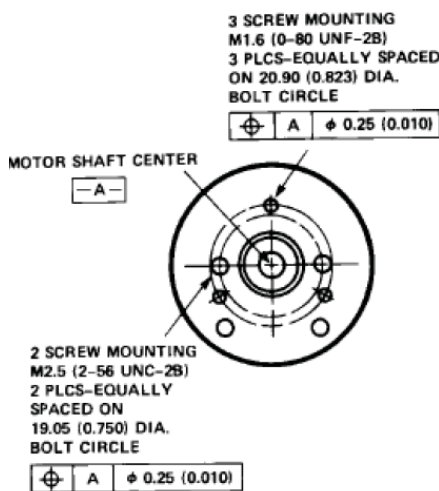
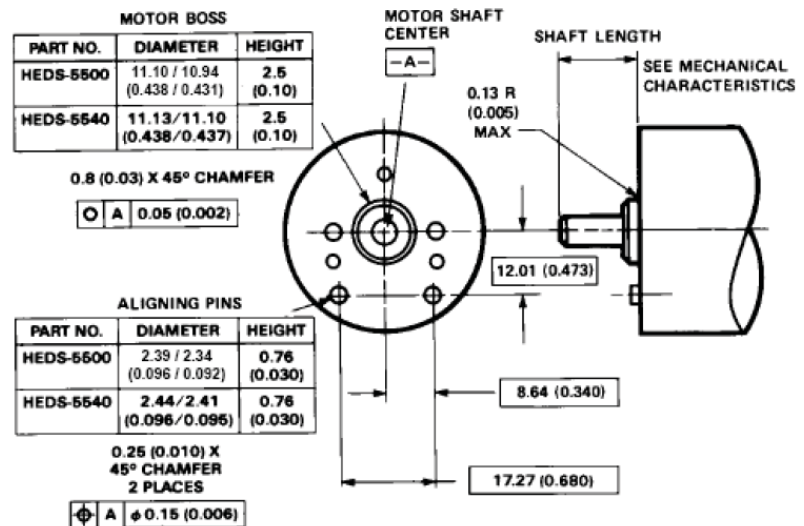

Figure 2. Mounting Holes.
Figure 3. Optional Mounting Aids.
3. The HEDS-5540 and 5640 must be aligned using the aligning pins as specified in Figure 3, or using the alignment tool as shown in "Encoder Mounting and Assembly". See also "Mounting Considerations."
The HEDS-5540 and 5640 three channel encoders and the HEDM Series high resolution encoders must be aligned using the aligning pins as specified in Figure 3, or using the HEDS-8910 Alignment Tool as shown in Encoder Mounting and Assembly.
additional mounting bosses, the encoder output errors will be within the maximums specified in the encoding characteristics section. The HEDS-5500 and 5540 can be mounted to a motor using either the two screw or three screw mounting option as shown in Figure 2. The optional aligning pins shown in Figure 3 can be used with either mounting option. The HEDS-5600, 5640, and HEDM-5600 have external mounting ears which may be used for mounting to larger motor base plates. Figure 4 shows the necessary mounting holes with optional aligning pins and motor boss.